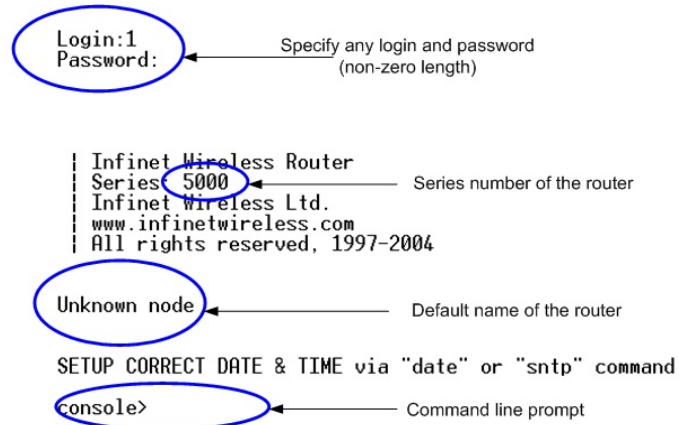

Figure 8. "After login" screen
- Your device has a factory configuration. That means that you can enter ANY non-zero length login and password. Once this is done, you will see WANFlex CLI (Command Line Interface). See Figure 8